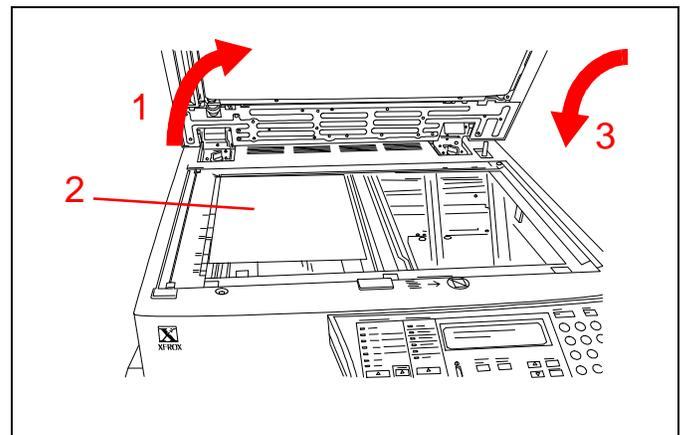

Figure 40
1. See Figure 40. Raise the document glass cover or ADF.